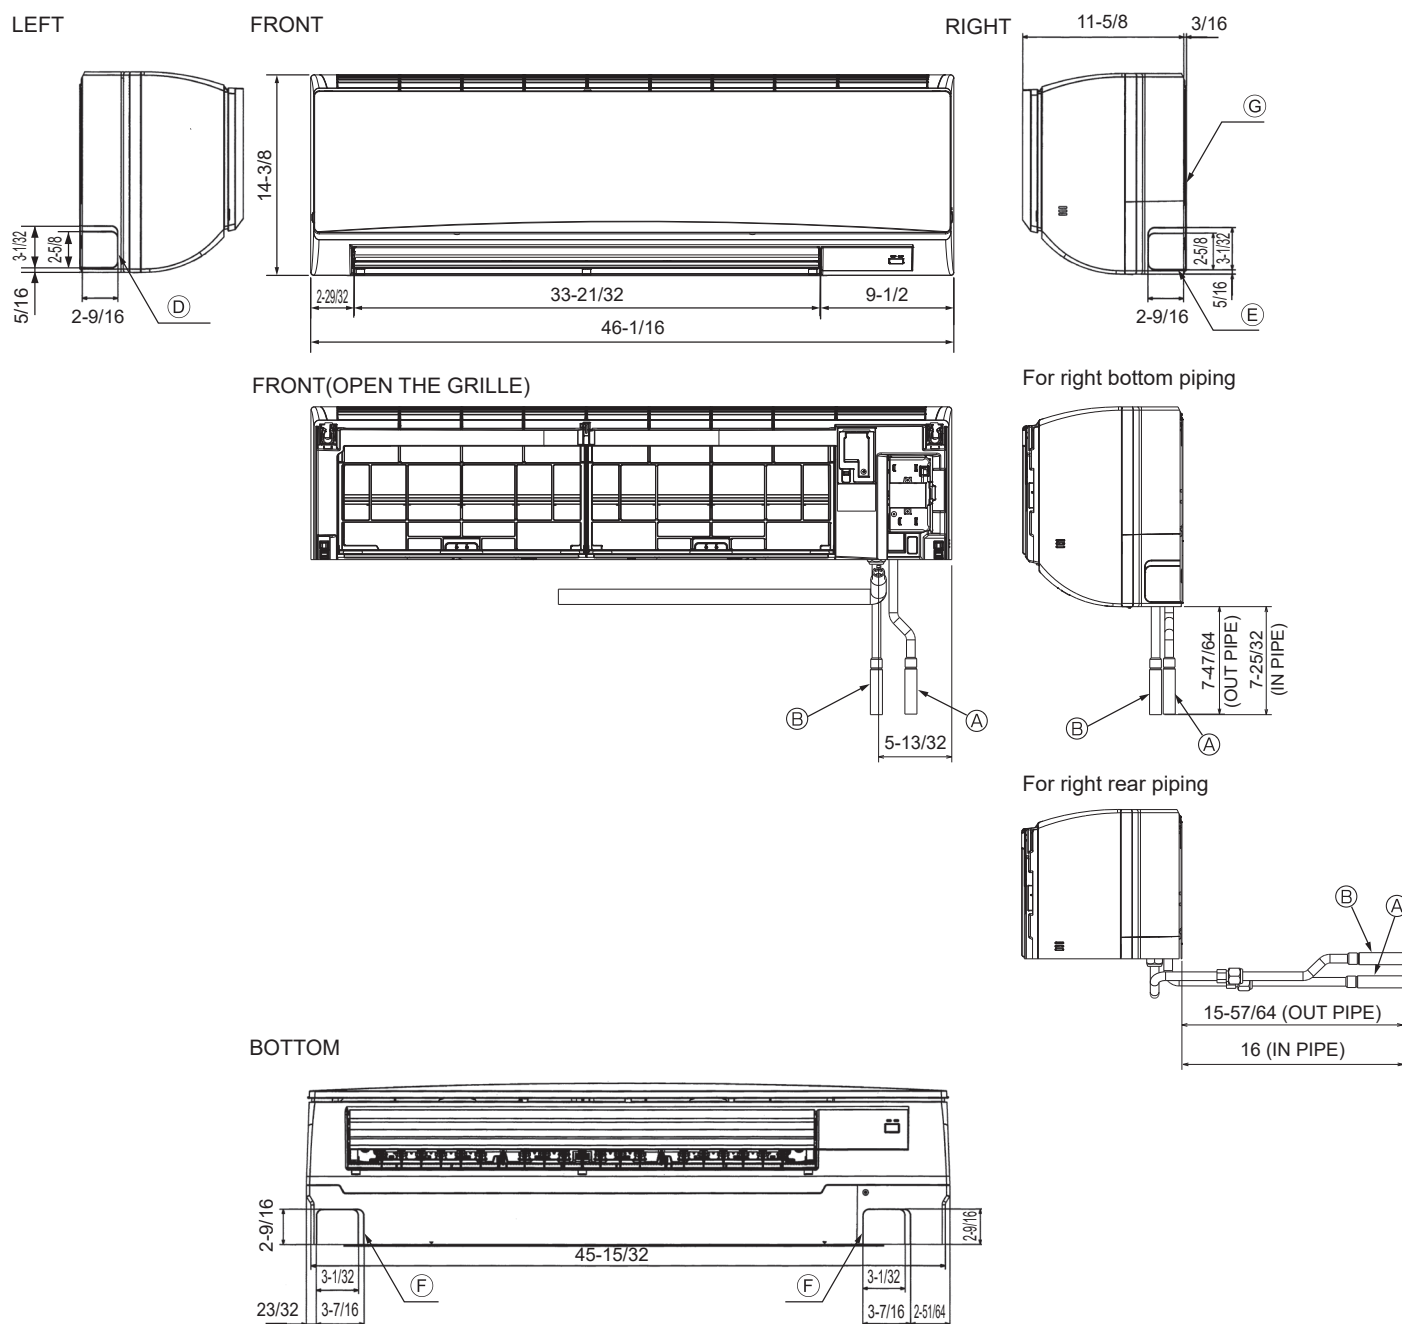

Fig. 4-5
4.2. Positioning water and drain piping (Fig. 4-5)
- G Mount board ①